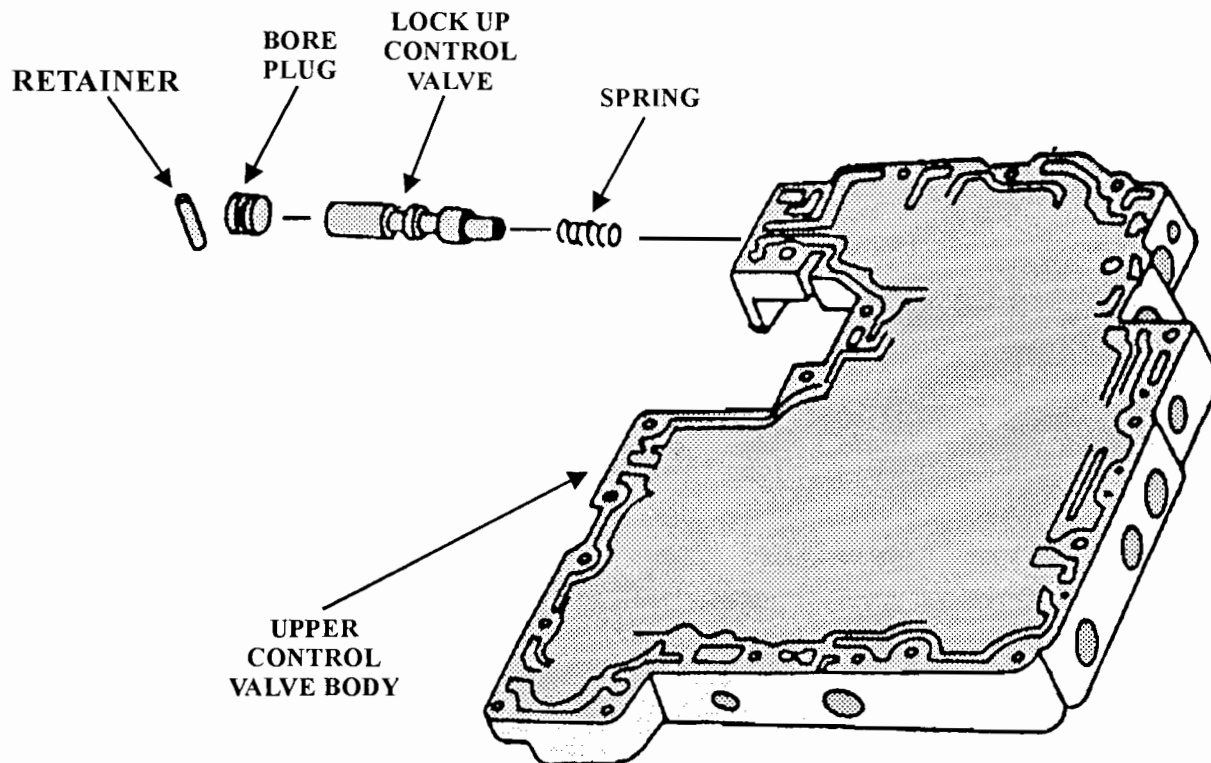

Figure 56
**CORRECTION:** Replace the bore plug ensuring the new bore plug fits "snug" in the valve body bore, See Figure 56.